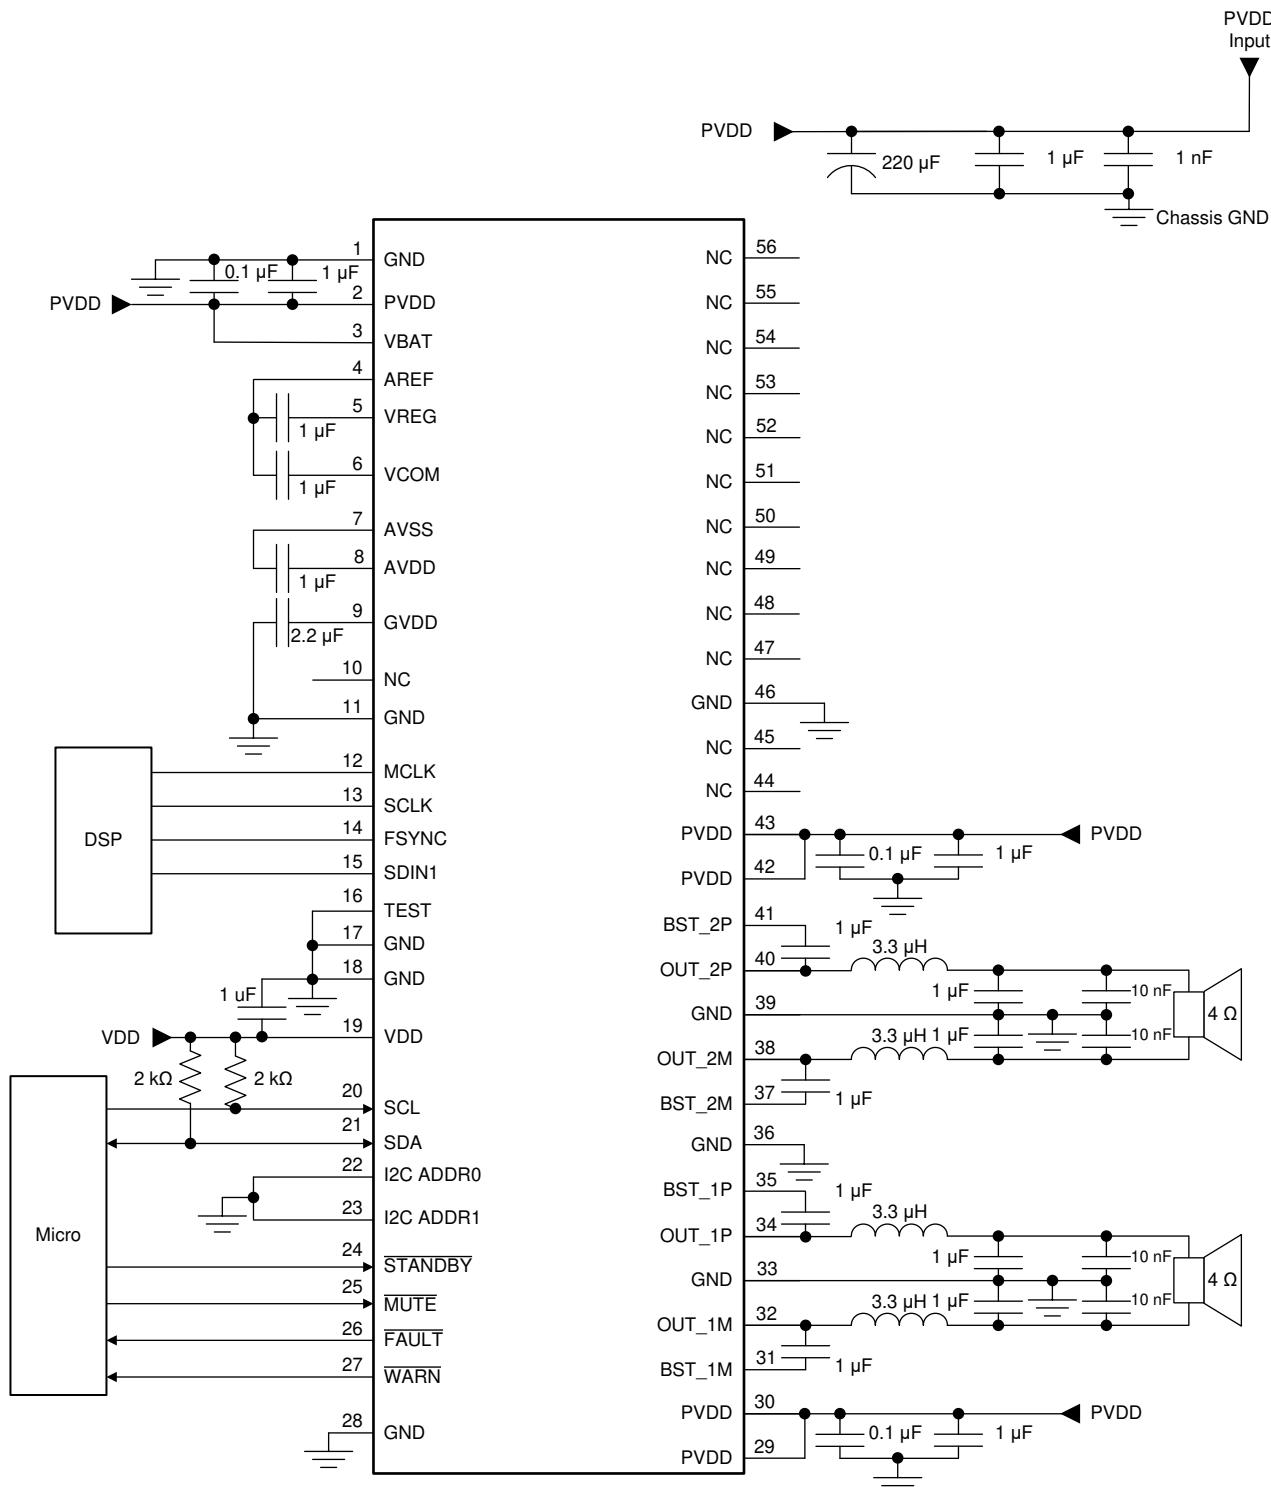

Figure 10-2. Typical 2-Channel BTL Application Schematic
Figure 10-2 shows the schematic of a typical 2-channel solution for a head-unit application.
- With the requirements, adjust the typical application schematic in Figure 10-2 for the input connections.